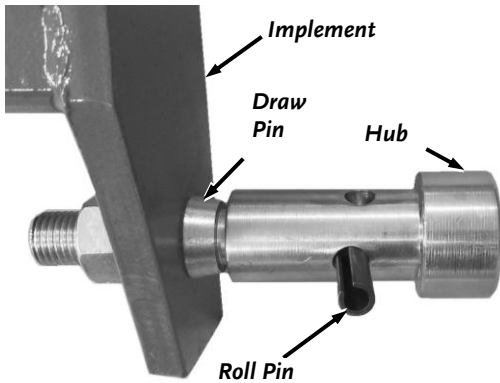

Figure 5
2. Slide the Quick Hitch Bushings onto the Draw Pin of the Implement with the Hub facing outward (**Figure 5**).